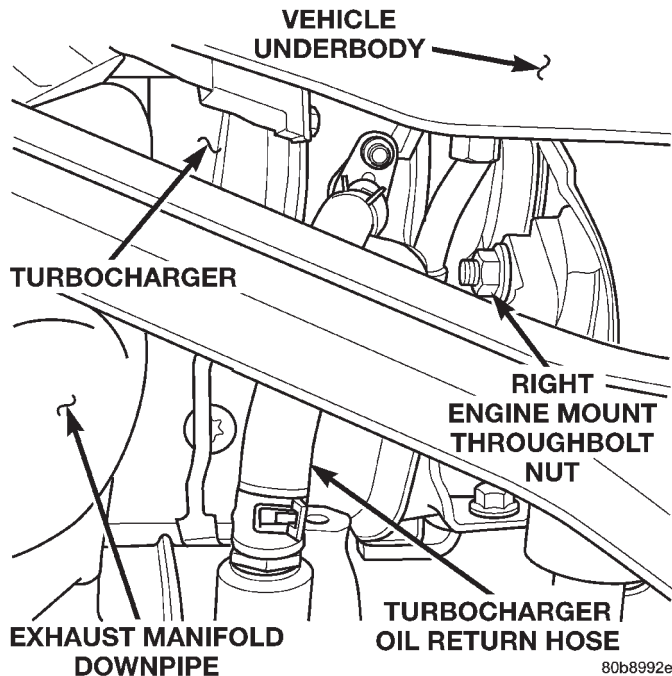

Fig. 7 Turbocharger Oil Return Hose
- (13) Disconnect the turbocharger oil return hose from the engine block (Fig. 7).